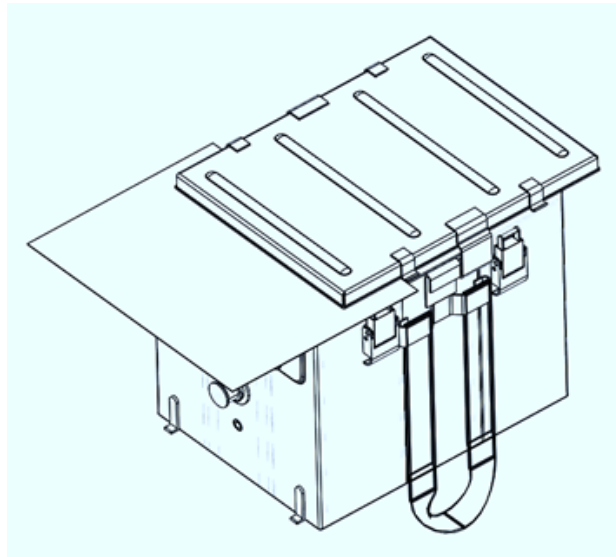

Figure 1 Liner between battery box and cover assembly
- Place the cover assembly in position as illustrated in figure 1 and **glide the cover over the liner** and onto its final latching position.